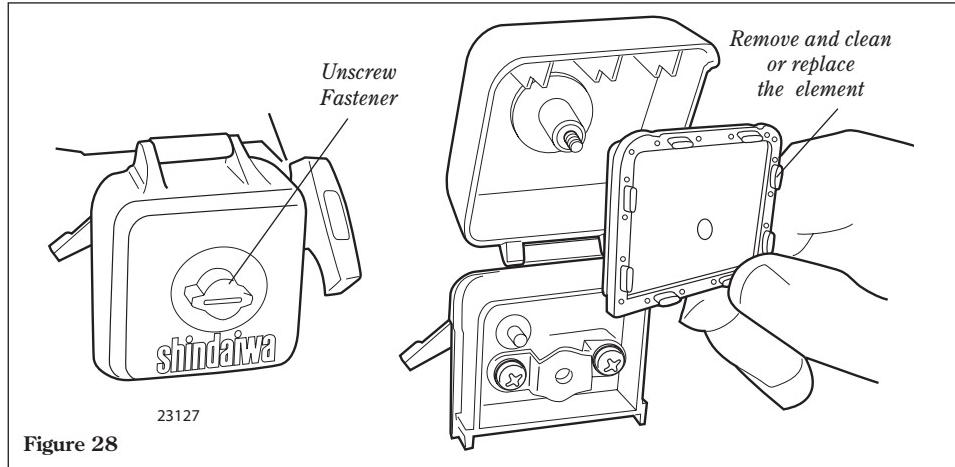

Figure 28
**Every 10 hours of operation** (more frequently in dusty or dirty conditions): Remove the air cleaner element. See Figure 28. Clean or replace as necessary. To clean element: wash it thoroughly in soap and water. Let it dry before reinstalling the element.